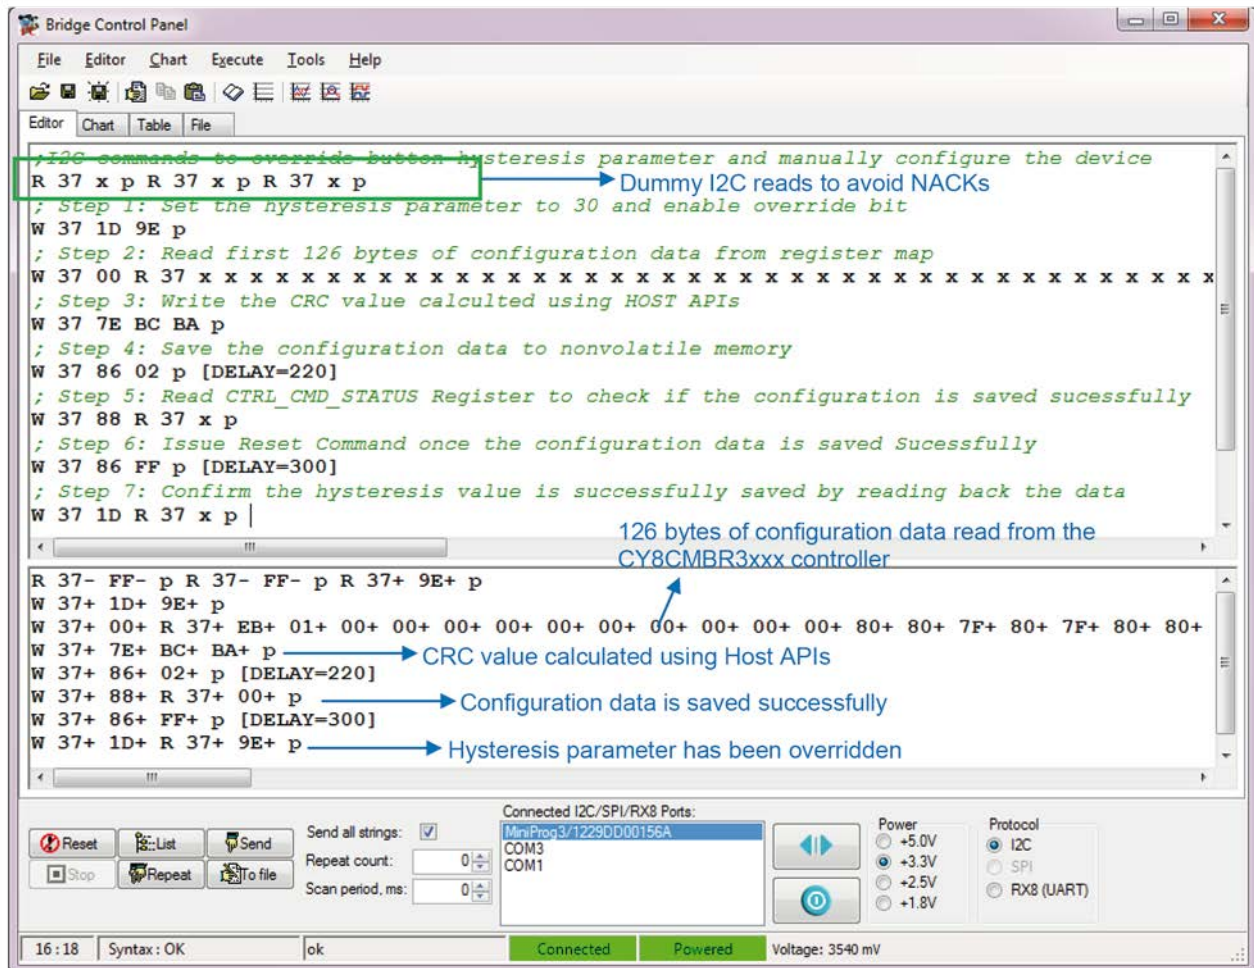

Figure 5-26 Writing to CONFIG_CRC by Calculating the CRC Using Host APIs
Configuring CY8CMBR3xxx by entering custom commands in BCP is shown in Figure 5-26. In this method all the 128-byte configuration registers or any specific register can be configured. When the CY8CMBR3xxx is configured using the custom command, it is required to compute the Cyclic Redundancy Check (CRC) of the first 126 bytes of the configuration data and write it to CONFIG_CRC (0x7E) register. This CRC value will be used by the CY8CMBR3xxx controller to verify the integrity of the configuration data.
When an I²C command (read/write) is sent to the CY8CMBR3xxx controller it might NACK the I²C transaction. In this case insert dummy I²C read transactions while writing or reading any register, as shown in Figure 5-26.
- Use the Host APIs to calculate the CRC value: Cypress provides Host APIs to configure the CY8CMBR3xxx using host processor. The Host APIs have source code, which can be used to compute the CRC value of the 126 bytes of the configuration data. The user should use this code to calculate the CRC and write the calculated CRC value to the CONFIG_CRC (0x7E) register, as shown in Figure 5-26. The procedure to calculate the CRC is explained in the section 5.2.4.2. It is highly recommended to use this method to calculate the CRC value.